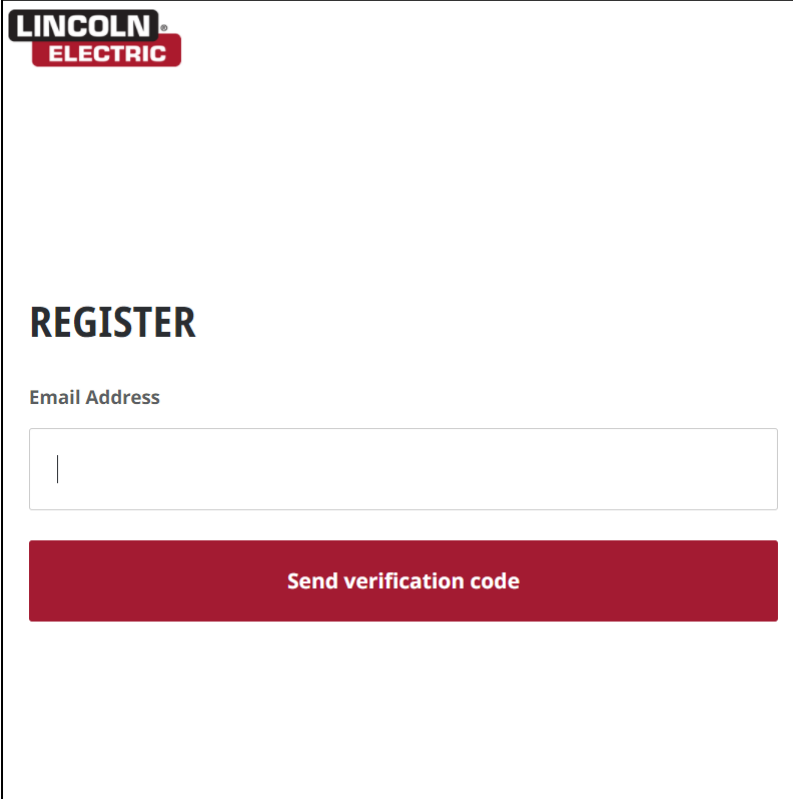

Figure 2.2 Register a New User Account
The first step in *Getting Started Using CheckPoint* is to create a new user account. To set up your company's first account, display the Login page. Click the *Sign up now* link to register as a new user. Refer to Figure 2.1. Enter the *Email Address* you want to use in the required field shown in Figure 2.2. Then click the **Send verification code** button, check the email account, and verify you have access to the email address.
1. Click Sign up now on the Login page.	The Register a User Account page opens. See Figure 2.2